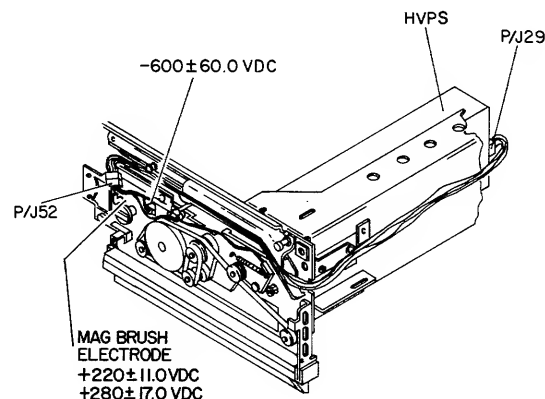

Figure 3-31. Developer Bias Checkout
3. PLACE RED LEAD ON THE BIAS BAR (Figure 3-31); DMM SHOULD READ BETWEEN -540 AND -660 VDC.